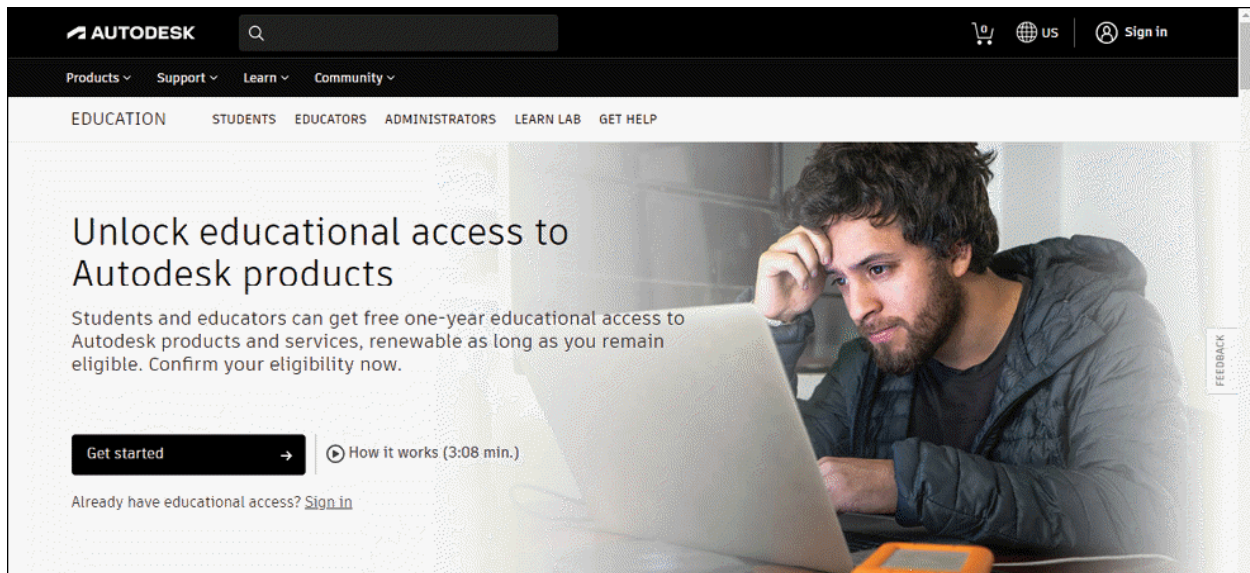

Figure-2. Autodesk Website
- Connect your PC with the internet connection and then log on to <https://www.autodesk.com/education/edu-software/overview> as shown in Figure-2.